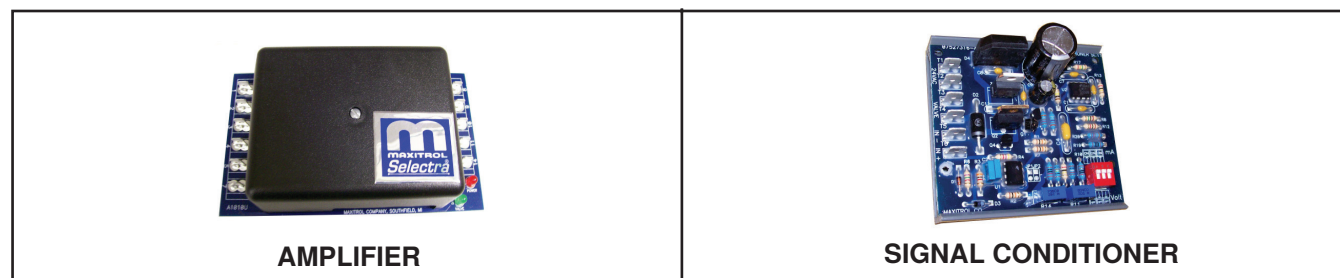
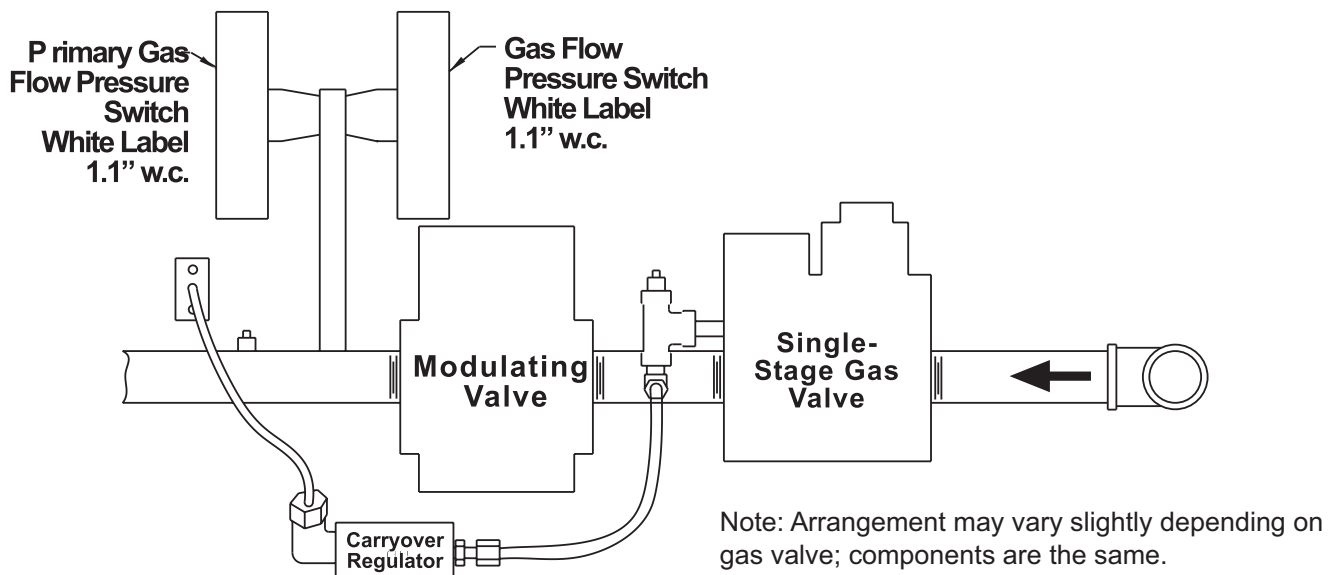

Figure 17. Maxitrol Amplifier and Signal Conditioner
Figure 18. Typical Manifold Arrangement with Electronic Modulation
- **Electronic modulation between 50% and 100% firing rate (option AG8):** Electronic modulation for makeup air application that is controlled by a duct sensor and temperature selector (55–90°F (12.8–32.2°C)). The temperature selector setting is on the amplifier (see Figure 17). Option AG8 is available with an override thermostat.
- **Electronic modulation between 50% and 100% firing rate (option AG21):** With option AG21, the furnace is equipped with a Maxitrol signal conditioner (see Figure 17) that operates much the same way as the amplifier above to control the regulator valve. The signal conditioner accepts an input signal of either 4–20 milliamps or 0–10V from a customer-supplied control device such as a computer. With the dip switches on the conditioner positioned to ON, the conditioner accepts a 4–20 milliamp signal. With the dip switches on the conditioner positioned to OFF, the conditioner accepts a 0–10V signal. The conditioner converts the signal to the 0–20V DC current required to control the modulating valve.
- **Electronic modulation between 25% and 100% firing rate (options AG39 and AG41):** The furnace closest to the blower is equipped with the electronic modulation option. The other furnace(s) have two-stage burner control from outside air temperature sensors identified as heat stage controllers. Option AG41 provides 6:1 turndown with two furnaces and 8:1 turndown with three furnaces. The gas supply (refer to pressure requirements in Table 16) connects to the single-stage gas valve. To compensate for additional pressure loss through the modulating valve, the single-stage gas valve has a custom outlet pressure setting higher than when it is used on a standard gas manifold. The pilot tubing connects to the pilot port on the single-stage gas valve. The furnace will ignite at any input rate in the available range and will maintain average thermal efficiencies equal to or greater than the thermal efficiency at full fire. The gas train (see Figure 18) includes a single-stage gas valve, a modulating valve, and two gas pressure switches. The burner rack is equipped with one flash carryover and a regulated gas lighter tube system. The carryover lighter tube receives its gas supply through the regulator simultaneously with the gas to the burner. Control of the system is through a Maxitrol amplifier (see Figure 17) with a corresponding remote temperature dial. When the valve receives a call for heat from the amplifier and pilot is established, gas flow from the single-stage valve goes to both the modulating valve and the regulated lighter tube system. When the signal from the amplifier to the modulating valve requires less-than-high fire operation, the modulating valve functions to lessen the gas flow to the burner to reduce the input rate to that which is necessary to maintain the desired temperature. When the input rate is reduced enough to decrease the gas pressure to 1.1 IN WC, the primary gas pressure switch in the manifold activates the gear motor that controls the bypass damper in the venter/combustion air system. The bypass damper opens to divert some of the incoming air directly into the flue duct to reduce air flow through the burner. Safety switches monitor the position of the bypass damper. When the gas pressure rises to > 1.1 IN WC, the bypass damper closes. Although the sensor has a mixing tube, at this distance from the discharge it does not receive a true mix, so the temperature read by the sensor will be slightly higher than the actual air entering the ductwork. The system will provide comfort level heat if the selector is set slightly lower to compensate for this reading. The offset temperature will vary with the application. If a direct correlation of these two temperatures is required, move the duct sensor to a location in the ductwork about 10–12 feet (3–3.7 meters) from the furnace discharge. This uniquely-designed modulation system requires combustion air pressure settings different from the standard system. Refer to Table 14 for the approximate combustion air proving switch settings at sea-level operation. Refer to Table 16 for pressure requirements. Refer to the Troubleshooting Bypass Combustion Air Damper Safety Circuit on Units with Option AG39, AG40, AG41, or AG42 section for troubleshooting.
- **Electronic modulation between 25% and 100% firing rate (options AG40 and AG42):** The furnace is equipped with a Maxitrol signal conditioner (see Figure 17) that receives an input signal of either 4–20mA or 0–10V from a customer-supplied control device such as a computer. With the dip switches on the conditioner positioned to ON, the conditioner accepts a 4–20mA signal. With the dip switches on the conditioner positioned to OFF, the conditioner accepts a 0–10V signal. The conditioner converts the signal to the 0–20V DC current required to control the modulating valve. The furnace functions and is equipped in the same way as options AG39 and AG41 except that with computer control, the temperatures are selected through the software and there is no temperature selector or duct sensor. This uniquely-designed modulation system requires combustion air pressure settings different from the standard system. Refer to Table 14 for the approximate combustion air proving switch settings at sea-level operation. Refer to Table 16 for pressure requirements. Refer to the Troubleshooting Bypass Combustion Air Damper Safety Circuit on Units with Option AG39, AG40, AG41, or AG42 section for troubleshooting.